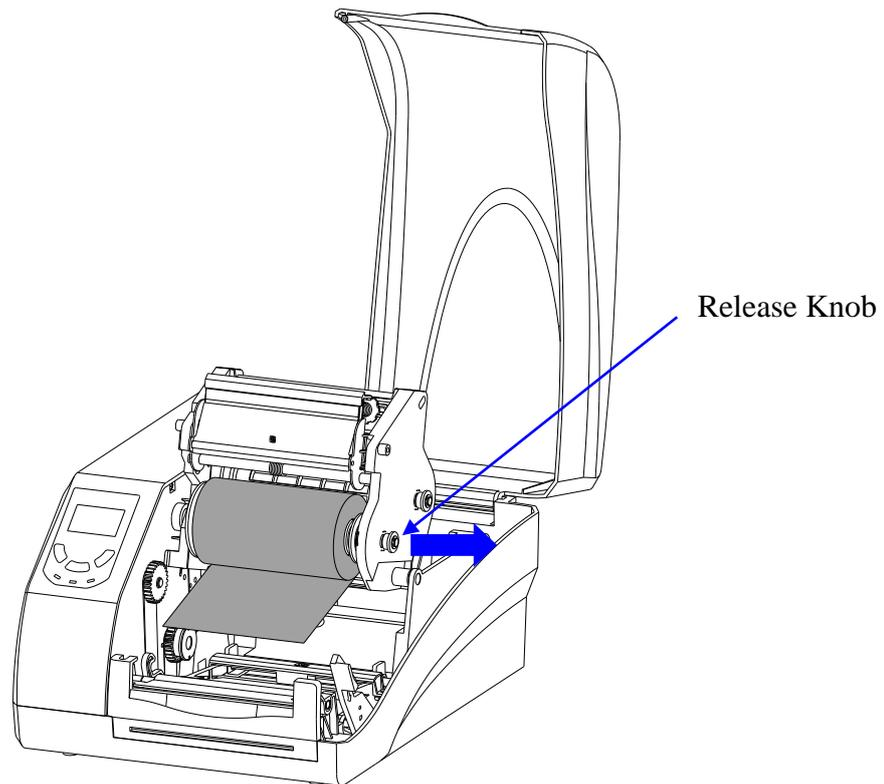

Figure 2-7 Load Ribbon Roll
5. Pull the Release Knob of the Ribbon Supply compartment outwards and place the ribbon roll in the Ribbon Supply compartment, aligning its ends with the Left Mount and the Right Mount which the Release Knob is attached to. Release the knob to secure the ribbon roll in the Ribbon Supply compartment, see Figure 2-7.